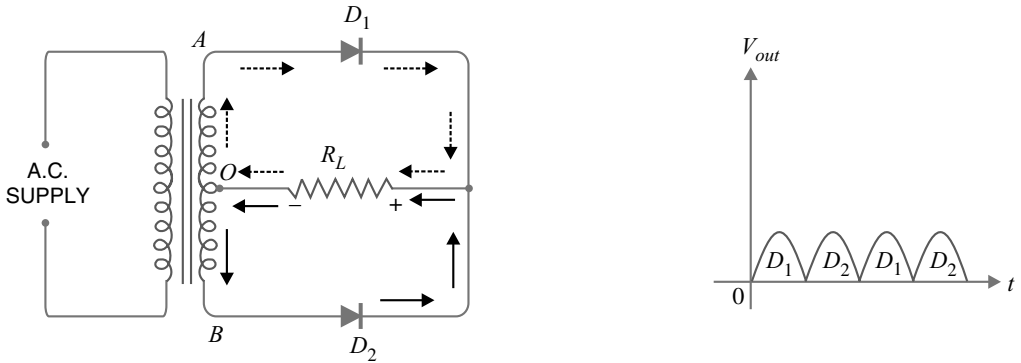

Fig. 4.31
The circuit employs two diodes D_1 and D_2 as shown in Fig. 4.31. A centre tapped secondary winding AB is used with two diodes connected so that each uses one half-cycle of input a.c. voltage. In other words, diode D_1 utilises the a.c. voltage appearing across the upper half (OA) of secondary winding for rectification while diode D_2 uses the lower half winding OB .
Operation. During the positive half-cycle of secondary voltage, the end A of the secondary winding becomes positive and end B negative. This makes the diode D_1 forward biased and diode D_2 reverse biased. Therefore, diode D_1 conducts while diode D_2 does not. The conventional current flow is through diode D_1 , load resistor R_L and the upper half of secondary winding as shown by the dotted arrows. During the negative half-cycle, end A of the secondary winding becomes negative and end B positive. Therefore, diode D_2 conducts while diode D_1 does not. The conventional current flow is through diode D_2 , load R_L and lower half winding as shown by solid arrows. Referring to Fig. 4.31, it may be seen that current in the load R_L is *in the same direction* for both half-cycles of input a.c. voltage. Therefore, d.c. is obtained across the load R_L . Also, the polarities of the d.c. output across the load should be noted.